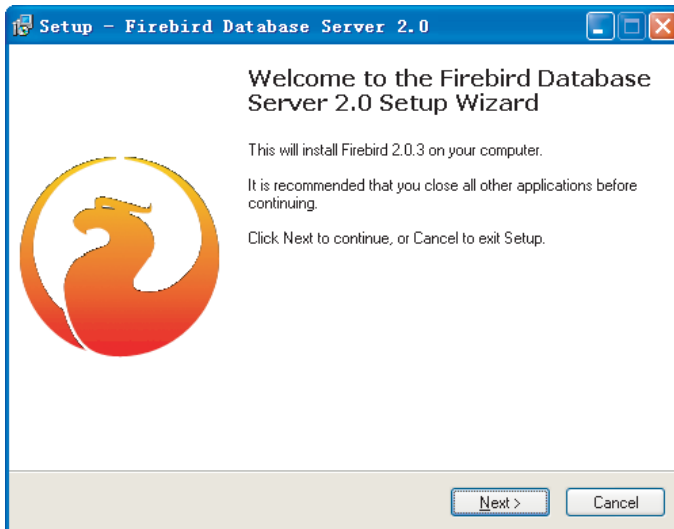

Fig.2-2
2) Installation window as Fig. 2-2, click “Next” to continue: